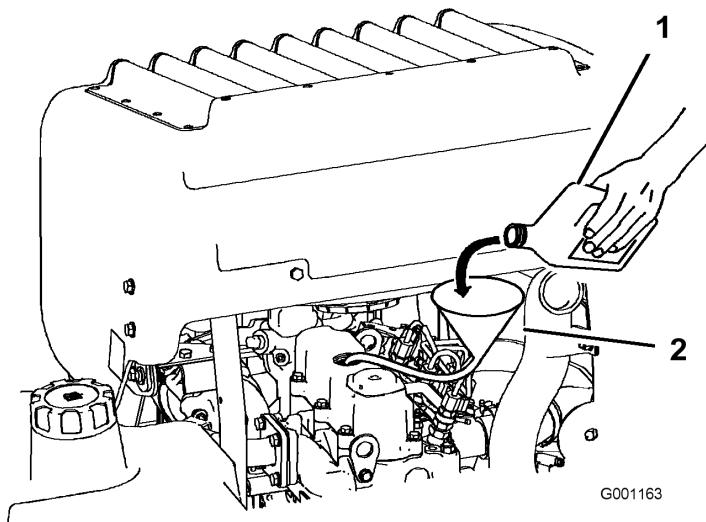

Figure 38
3. To add oil to the engine, locate and use a hose and funnel for adding oil (Figure 38).